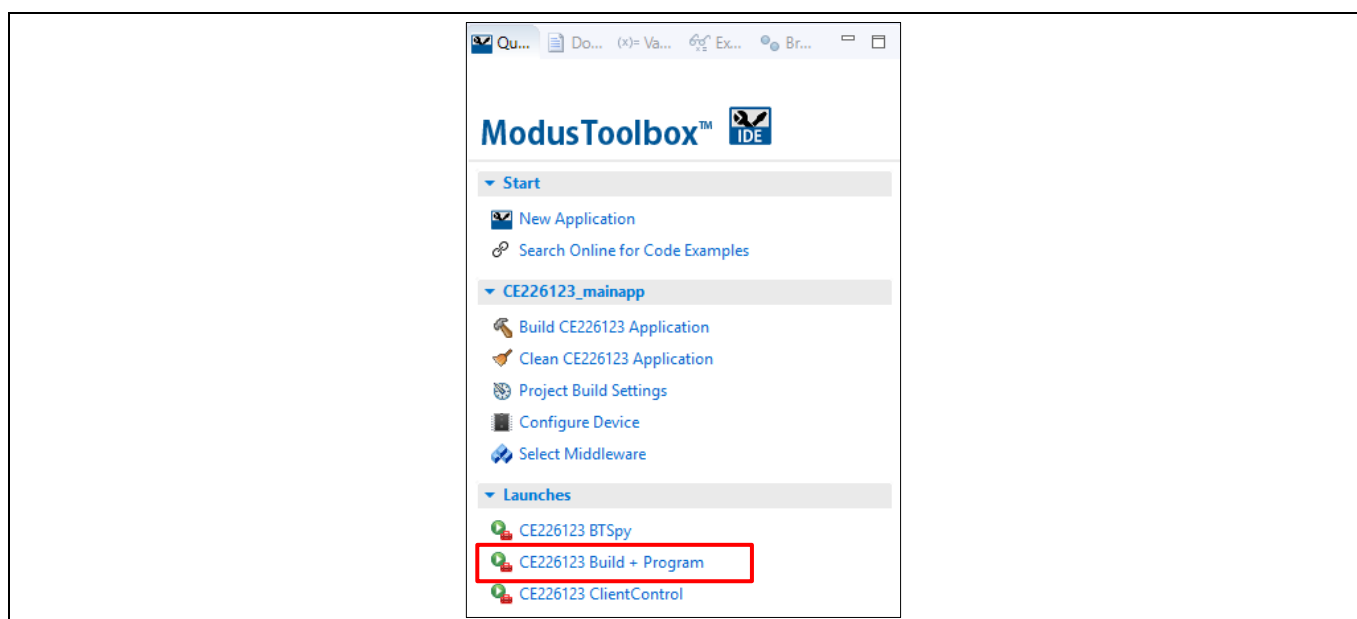

Figure 33 Programming the CYW20819 Device from ModusToolbox
2. Baud rate: 115200 bps; Data: 8 bits; Parity: None; Stop: 1 bit; Flow control – None; New line for receive data: Line Feed (LF) or Auto setting
3. **Build and Program the Application:** In the project explorer, select the **<App Name>_mainapp** project. In the Quick Panel, scroll to the **Launches** section, and click the **<App Name> Build + Program** configuration as shown in Figure 33.